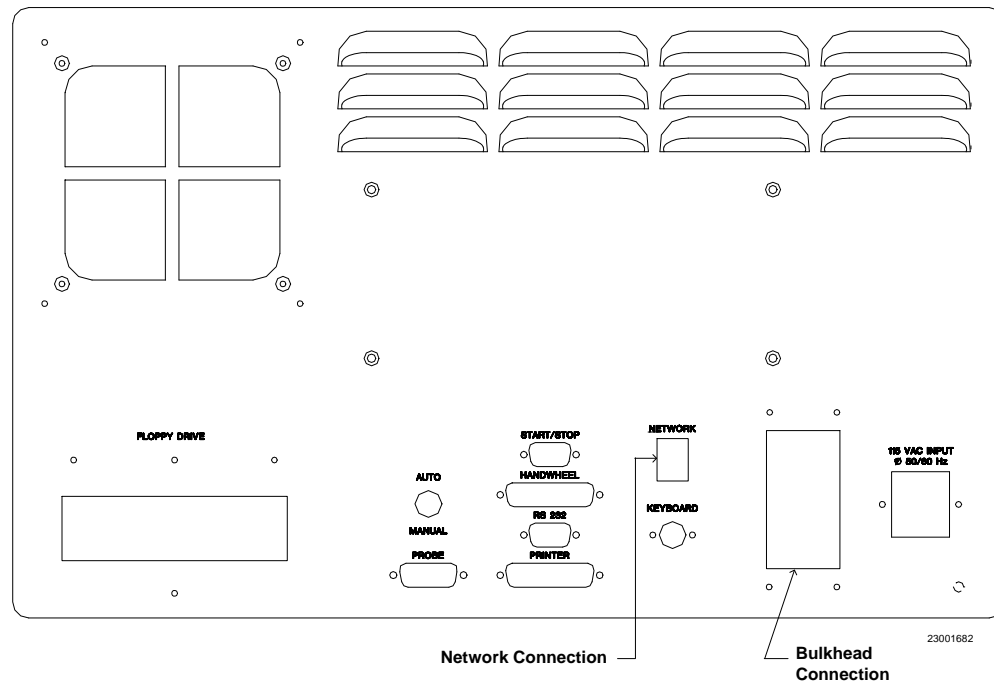

Figure 3-55, Console Rear Panel
1. Use a standard CAT5, RJ-45 cable for the network connection. Refer to **Figure 3-55**.
3. Plug the remote start/stop cable into the back of the console at the START/STOP connector. Refer to **Figure 3-55, Console Rear Panel**.
6. Plug the Handy Pulser cable into the back of the console at the Handwheel connector. Refer to **Figure 3-55, Console Rear Panel**.
Refer to **Figure 3-55, Console Rear Panel**. To install a printer, plug the printer cable into the DB-25 connector located on the back of the console.